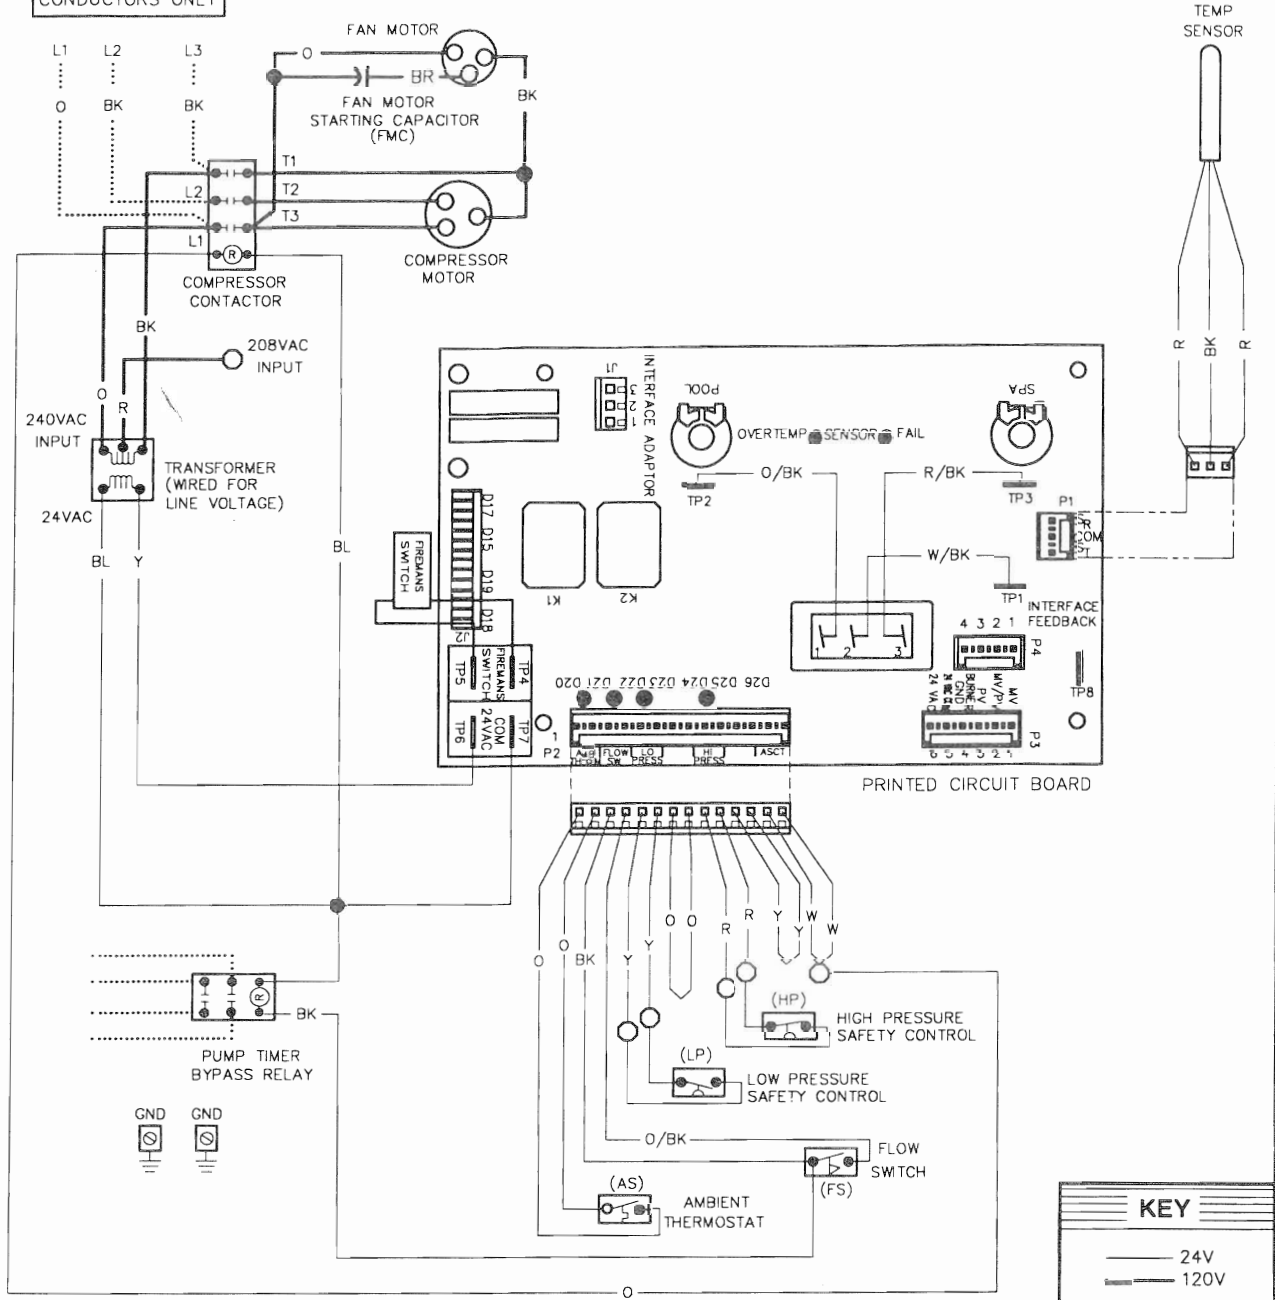

**Figure 1**
1. The pool heater should be connected in the return water line between the pool filter and the pool (see figure 1). Connect the filter outlet to the LOWER heater fitting marked "water in.". Connect the UPPER heater fitting to the return piping to the pool. Heater inlet/outlet connection fittings are 2" PVC.
4. If your system incorporates an external heater bypass line (see figure 1), open the bypass valve which will allow water to bypass the heater, reducing the head pressure on the pump, and ensuring maximum water circulation during summer months.